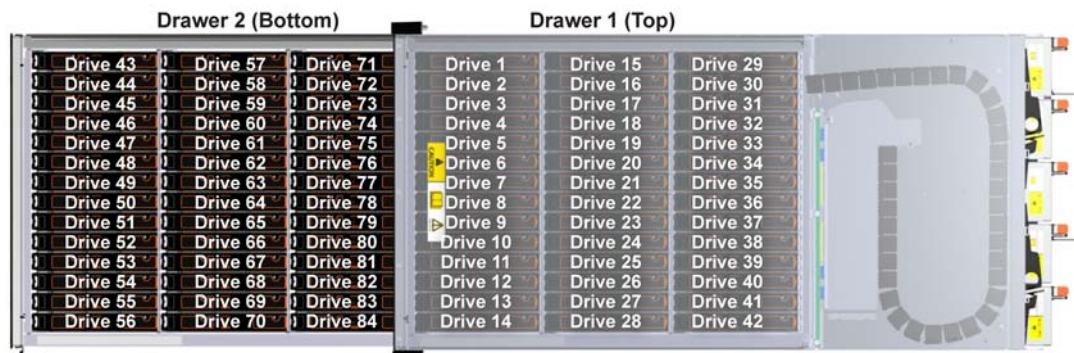

Figure 6-4 Drive Location Plan
- 3 Locate the drive to be replaced, either by using the drive plan (see Figure 6-4) or by looking for the amber LED on the drive that indicates a fault.